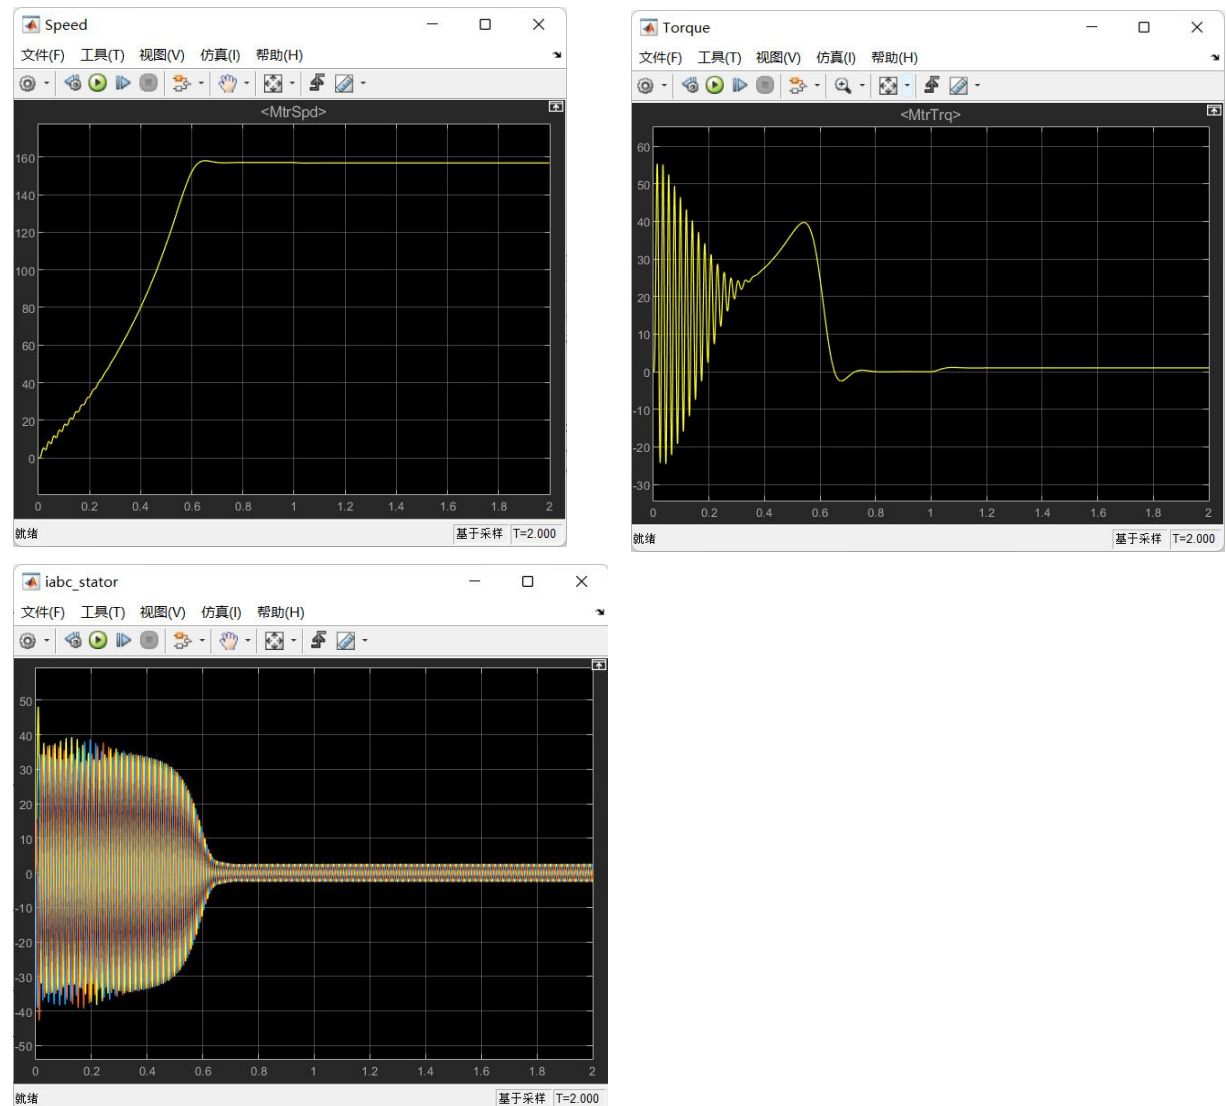

Figure 4. Start motor: motor transients (speed, torque, currents) when connected to a three-phase power supply (moment of inertia $J=0.095$)
4. Simulate start of the motor and shown figures of speed, torque, stator's currents (figure 4 in report)